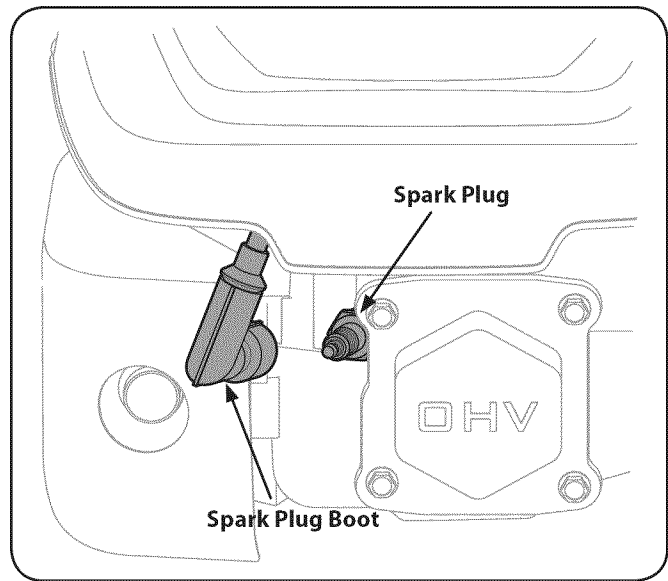

Figure 6-4
- Remove the spark plug boot and use a spark plug wrench to remove the plug. See Fig. 6-4.